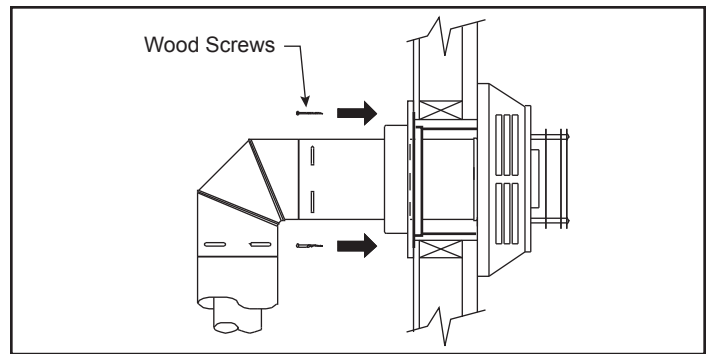

**Figure 29**
3. When penetrating through stucco wall, install the counter flashing. The counter flashing allows stucco, or other materials, to be finished directly to the sides of the termination cap. First attach the counter flashing to the base of the horizontal termination cap with the small screws provided, then mount entire assembly onto the wall with the four (4) 2-1/2" (64 mm) wood screws provided.
**Step 5** - Before connecting your horizontal pipe sections to the horizontal termination cap, slide the wall thimble cover over the pipe section nearest the interior side of wall, Figure 29.
**Step 6** - Slide the appliance and vent assembly towards the wall, carefully inserting the pipe section into the cap assembly. It is important the pipe section extends into the back of the termination cap with a minimum overlap of 1-1/4" (32 mm). Use the two (2) sheet metal screws provided to secure the pipe section to the back of the termination cap. The wall thimble cover will cover the screw heads, Figure 29.